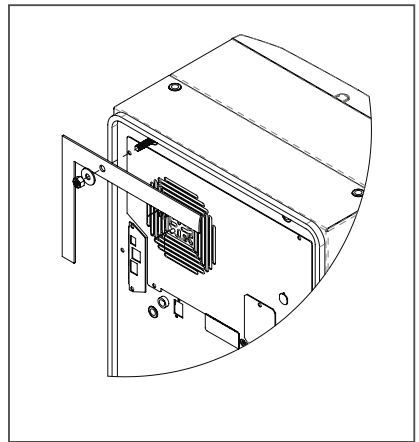

Figure 4
- Screw the supplied grub screws into the blind nuts on the rear of the unit, see Figure 4.
- Allow unit to remain upright for a minimum of five (5) minutes before starting.